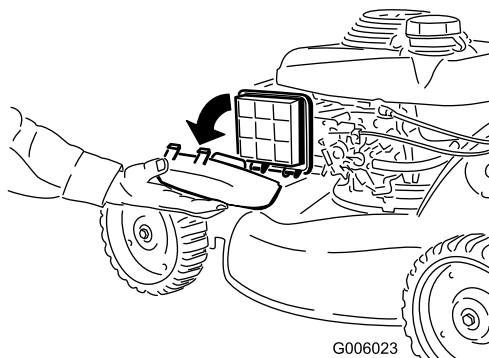

Figure 38
2. Open the cover (Figure 38).